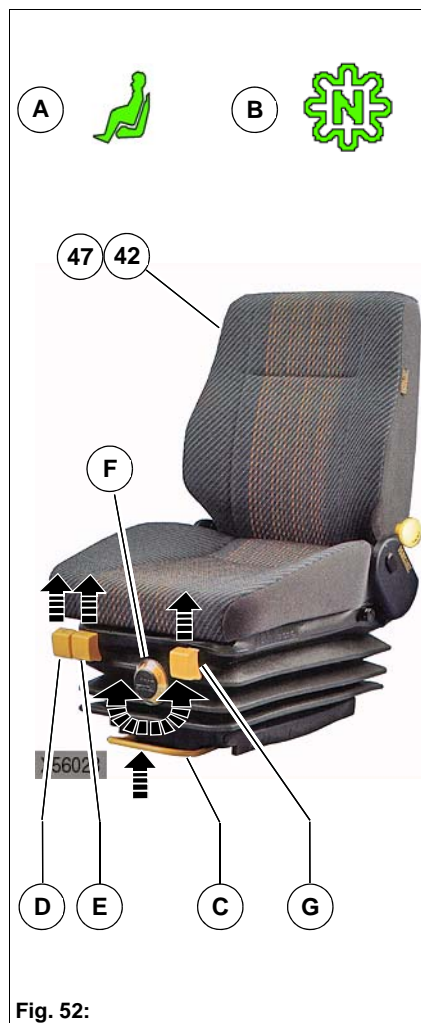

Fig. 52:
The driver's seat is equipped with a seat contact switch. It is only possible to drive the vehicle when a person is seated on the driver's seat. If the seat contact switch is not loaded and the drive switch or the accelerator pedal is actuated, the symbol **Fig. 52-A** appears in the multifunction display. If no pressure is placed on the driver's seat whilst driving, the vehicle stops.
If no pressure is placed on the driver's seat (e.g. the driver gets out) and the drive switch is not in the neutral position, the symbol **Fig. 52-B** is shown in the multifunction display once the driver's seat is loaded again. Shift the drive switch into the neutral position and move off.
- Pull the lever **Fig. 52-C** upwards.
- Release the lever **Fig. 52-C** and let the driver's seat engage.
- Pull the lever **Fig. 52-D** upwards.
- Release the lever **Fig. 52-D**.
- Pull the lever **Fig. 52-E** upwards.
- Release the lever **Fig. 52-E**.
- Use the handwheel **Fig. 52-F** to continuously adjust the seat suspension to the driver's weight (50 – 130 kg). Turn the handwheel **Fig. 52-F** to adjust the seat suspension.
- Press your back lightly against the backrest while simultaneously pulling the lever **Fig. 52-G** upwards.
- Release the lever **Fig. 52-G** and let the backrest engage with an audible click.